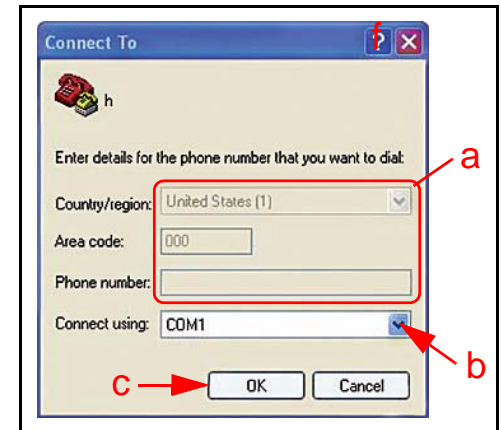

Figure 6 HyperTerminal Communication Connection To Screen
The 'Connect To' screen will appear (see Figure 6 on Page 7).
The HyperTerminal Communication "Connect To" Screen (Figure 6) provides Pull-down Menu and Text Field information for the following Fields:
4. **Connect Using:** — Select an available PC Communication COM Port from the Pull-down Menu (See Figure 6 b). All available COM Ports will be displayed.
5. Click on the "OK" Screen Button to record the selections and proceed to the next Screen (See Figure 6 c).